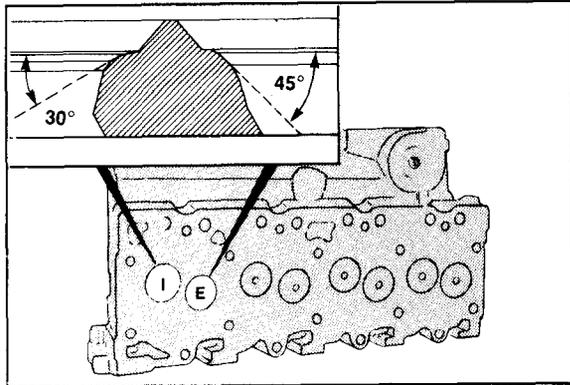

Figure 6-18
15. Check seat angle of cylinder head. Intake is 30 degrees and exhaust is 45 degrees (Figure 6-18).